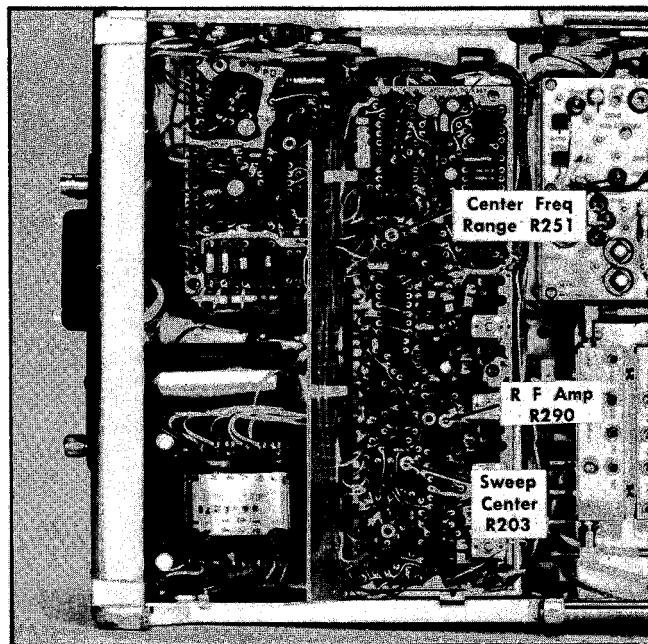

Fig. 6-18. Sweeper circuit adjustments.
- e. Adjust the RF Ampl R290 (see Fig. 6-18) for -0.85 volts ± 0.1 volt of trace deflection on the test oscilloscope.
- b. Adjust the Center Freq Range R251 (Fig. 6-18) for minimum IF signal shift as the DISPERSION selector is rotated through the 10 MHz to the .2 MHz positions. The DISPERSION RANGE switch must be in the MHz/DIV position for this adjustment.
- c. Adjust the Sweep Center R203 (Fig. 6-18) to position the 200 MHz signal at the graticule center horizontal line.